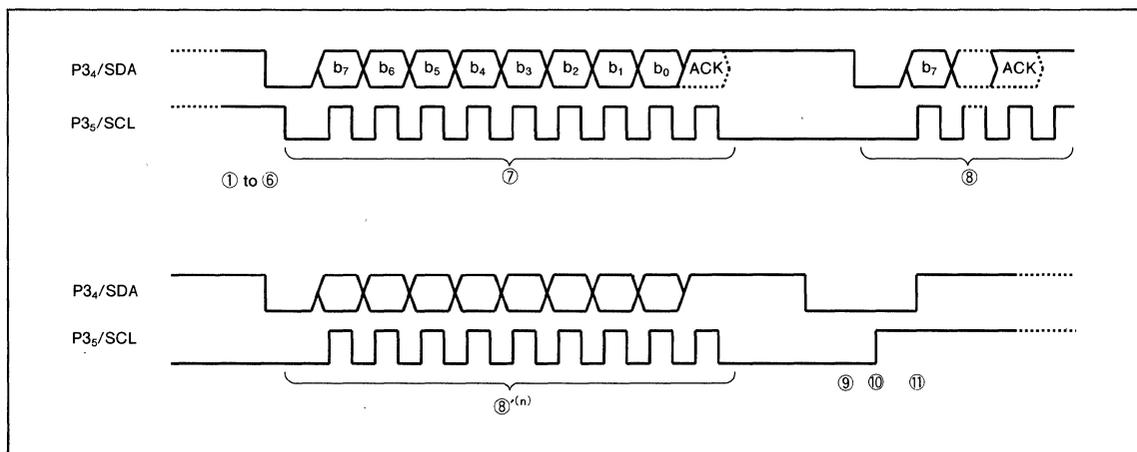

Fig. 16 Master transmission timing
Figure 16 shows master transmission timing explained above. (the numbers in this figure are correspond to above explained numbers.)
(2) Master reception
Master reception is carried out in the interrupt routine after data is transferred by master transmission. For master transmission and interrupt thereafter, see the preceding section (1) Master transmission (the process until ⑦ in Figure 16.)
Repeat the above receiving operation for a necessary number of times. Then return to the master transmission mode and transmit the stop signal by the same procedure for the master transmission (the process from ⑨ to ⑪ in Figure 16.)